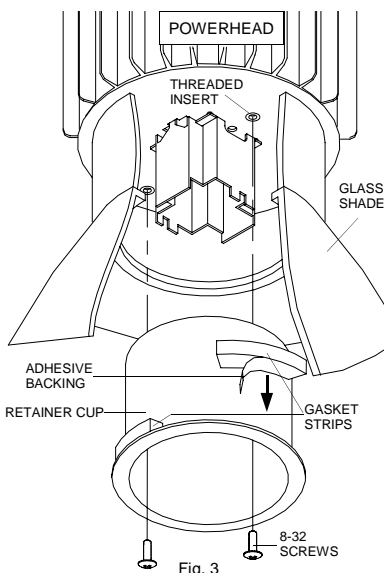

Fig. 3
1. Locate RETAINER CUP, GASKET STRIPS and 8-32 SCREWS, (supplied with POWERHEAD). Thoroughly clean aluminum retainer cup to insure good adhesion of GASKET STRIPS. Peel off ADHESIVE BACKING and apply GASKET STRIPS to retainer, equally spaced, as shown. (Fig. 3)